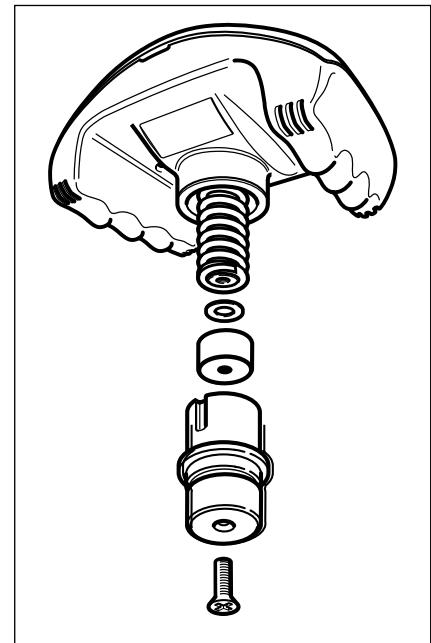

Figure 13
7. Reassemble in reverse order. Place the nylon spacer and washer into the nylon stem as shown in **Figure 13**. Apply a drop of locking fluid to the tip and the thread near the end of the screw. Push the screw up through the end of the stem and through spacer and washer.